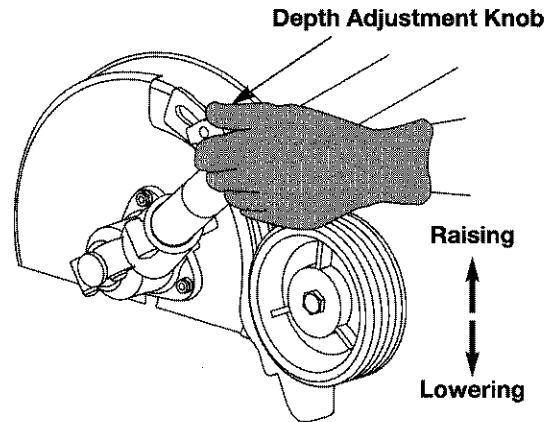

Fig. 17
1. Loosen the adjustment knob above the wheel (Fig 17).